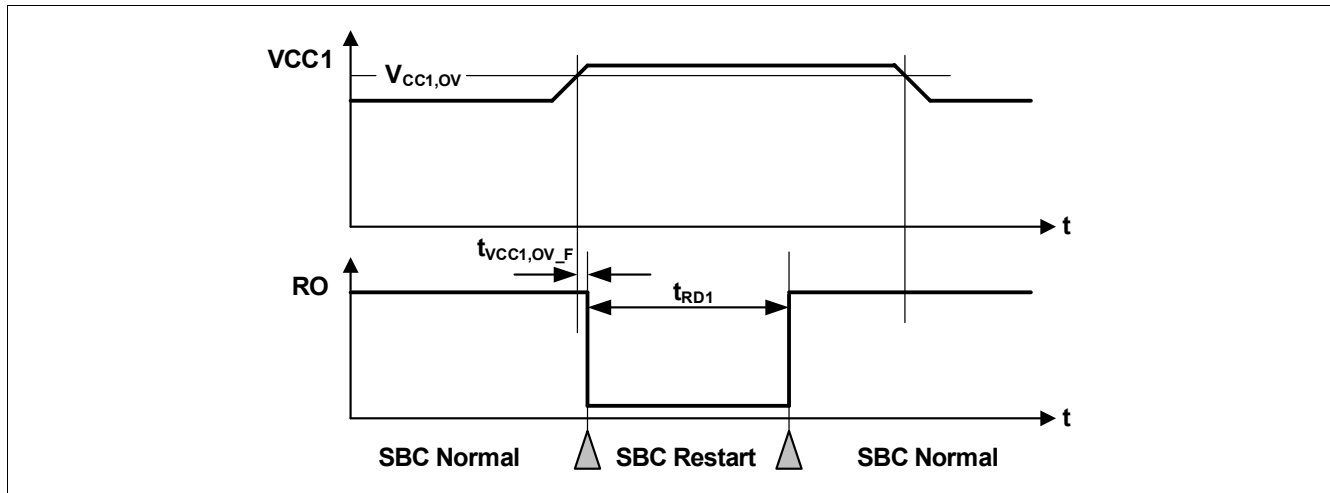

Figure 47 VCC1 Overvoltage Timing Diagram
- If the bit **VCC1\_OV\_RST** is set and **CFGP** = '1', then SBC Restart Mode is entered. The FOx outputs are activated. After the reset delay time ( $t_{RD1}$ ), the SBC Restart Mode is left and SBC Normal Mode is resumed even if the VCC1 overvoltage event is still present (see also **Figure 47**). The **VCC1\_OV\_RST** bit is cleared automatically;